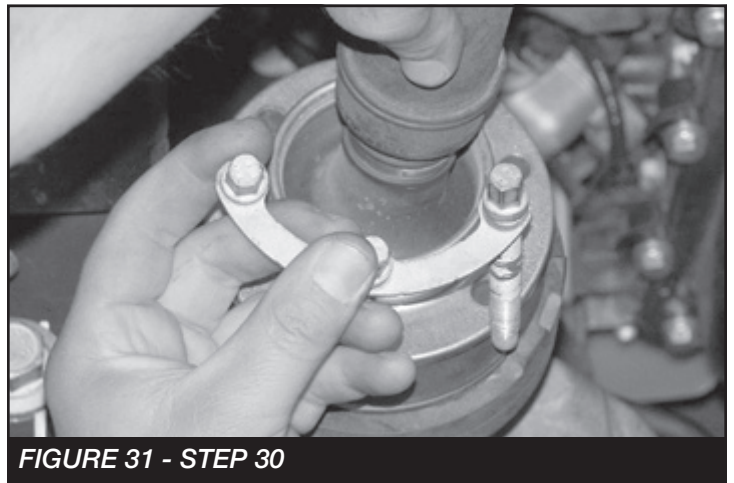

FIGURE 31 - STEP 30
30. Reinstall the front drive shaft with the factory hardware and torque to 35 ft-lbs. **SEE FIGURE 31**